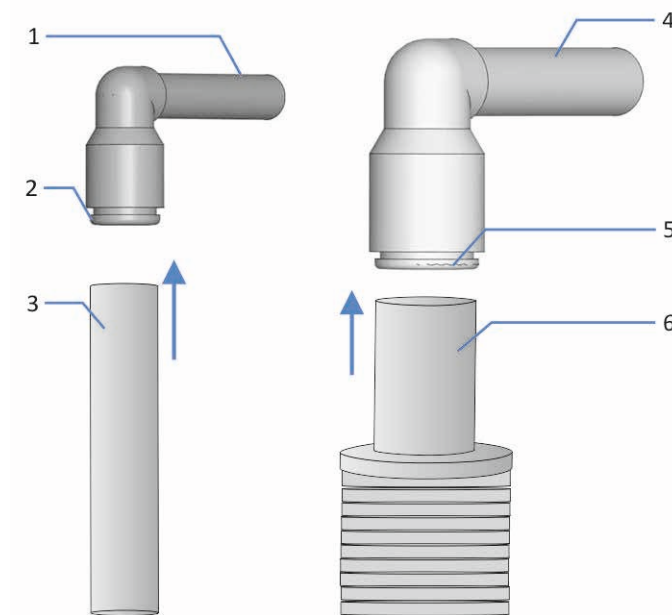

Figure 17: Connecting gas tubes to the elbow connectors
4. Connect the gas tubes to the elbow connectors. Mind the correct orientation of the elbow connectors (see Figure 17).